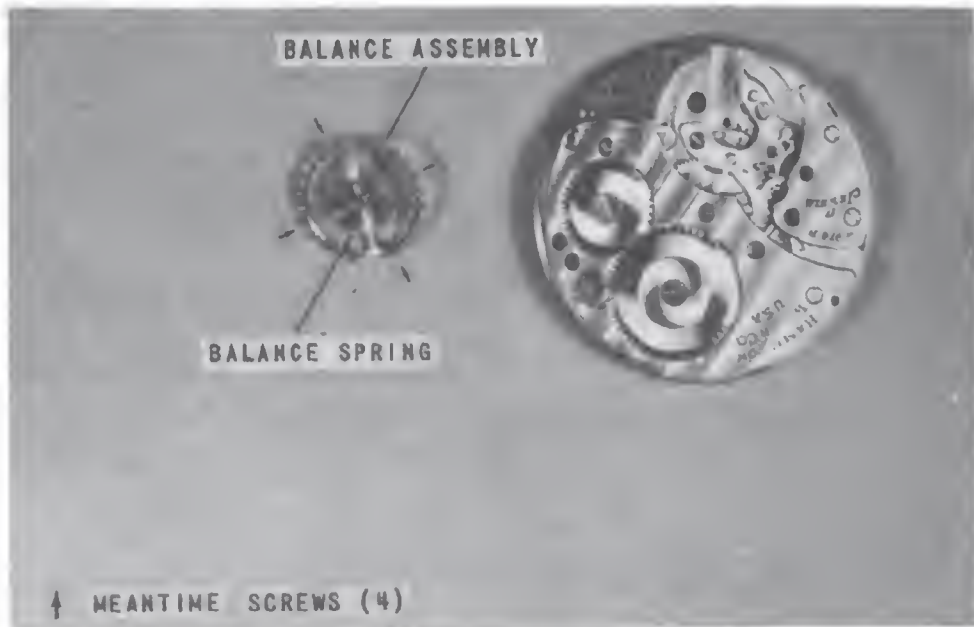

**Figure 55.** — Balance cock removed and disassembled.
*Remove the balance cock assembly.* — Reverse the movement again in the movement holder, and loosen the hairspring stud screw; then with a small broach or screw driver loosen the stud. Remove the balance cock screw and take off the balance cock assembly. (See figure 55.) Secure the hairspring stud screw